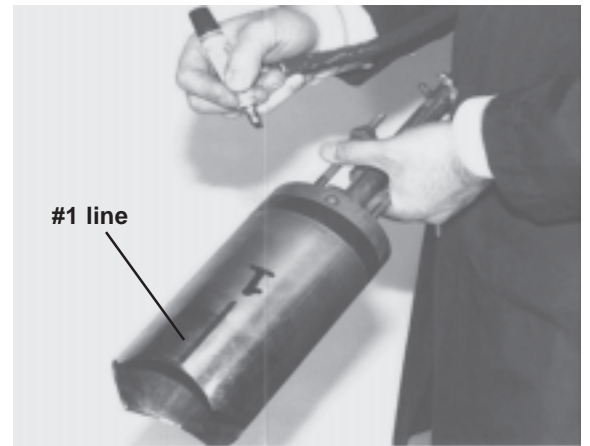

FIG. 3
3. Draw a line down the center of each lobe approximately 4" long with a black grease pencil or marker. Number each line in order 1-4. (See FIG. 3)